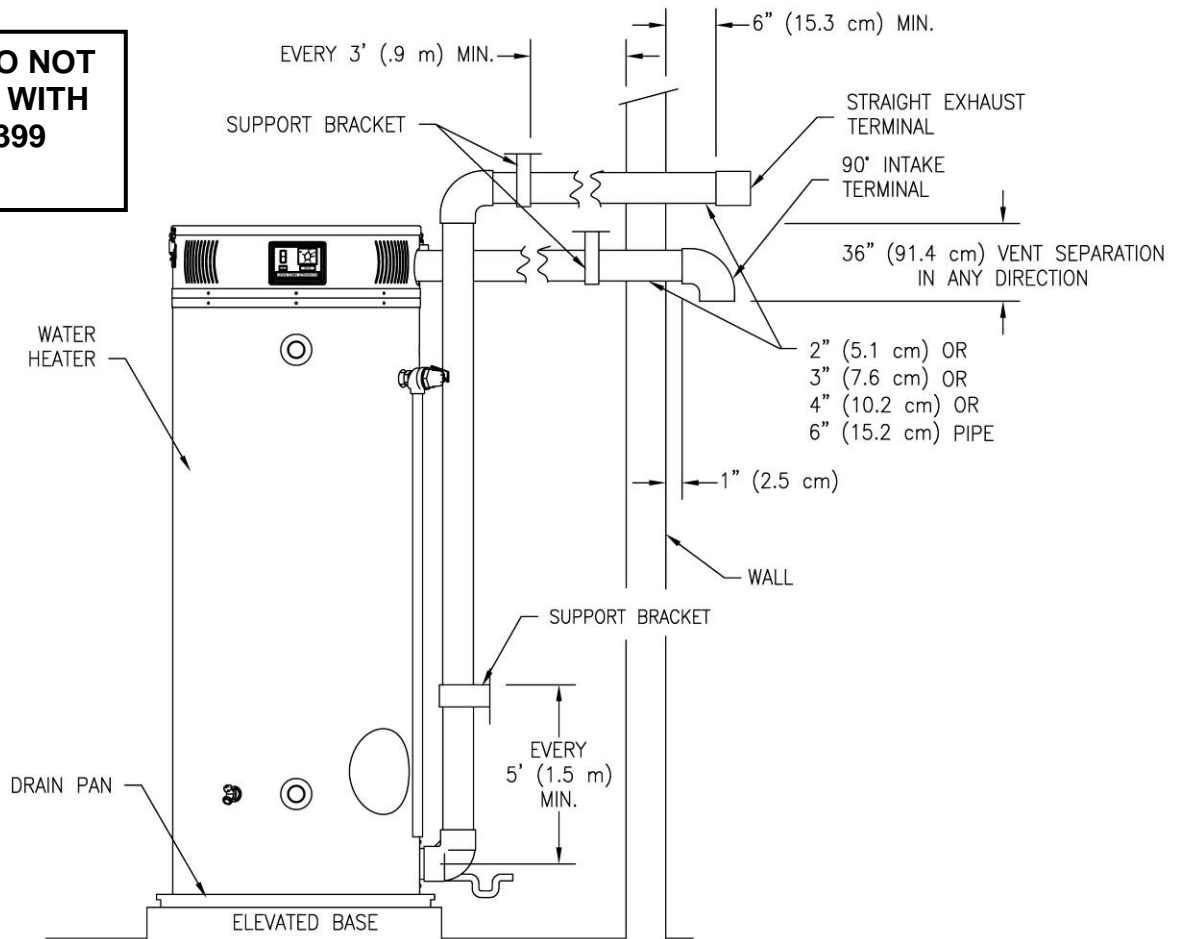

Figure 12 - Typical Horizontal Direct Vent System
2. Use the proper cement to secure the exhaust vent and air intake terminals provided with the water heater to the pipes. The distance between the back edge of the exhaust vent terminal and the exterior wall (see Figure 12) must be 6 in (15.2 cm) more for the exhaust vent terminal than the air intake terminal. Use the proper cement or sealant and assembly procedures to secure the vent connector joints between the terminal and the blower outlet. Provide support brackets for every 3 ft (.92 m) of horizontal vent beyond the intake terminal.